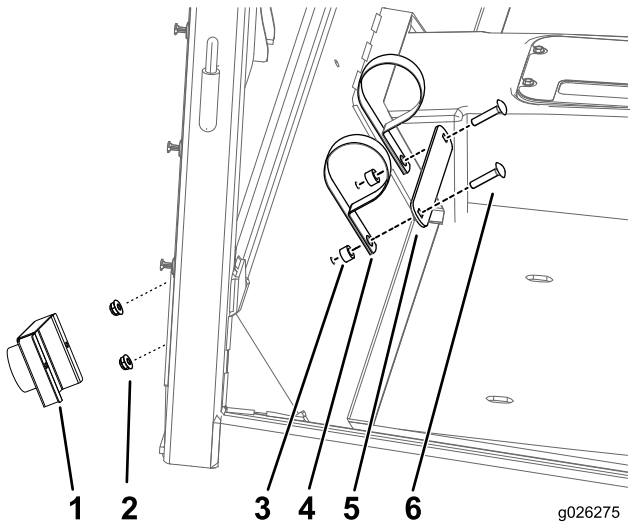

Figure 31
1. Install the operator manual tube as shown in Figure 31.